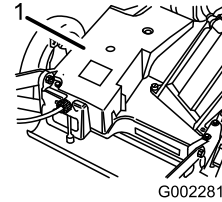

Figure 32
3. Remove the bolts that secure the belt cover (Figure 32) to the mower housing.